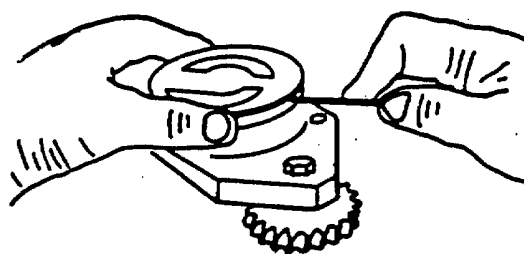
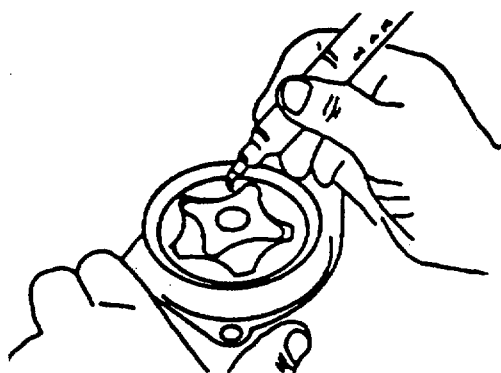

FIGURE 3-60. Remove Sealing Plate.
FIGURE 3-61. Mark Gerator Top.
- b. Turn pump over. Remove the sealing plate (FIGURE 3-60). Mark "TOP" (FIGURE 3-61) on gerator planetary.